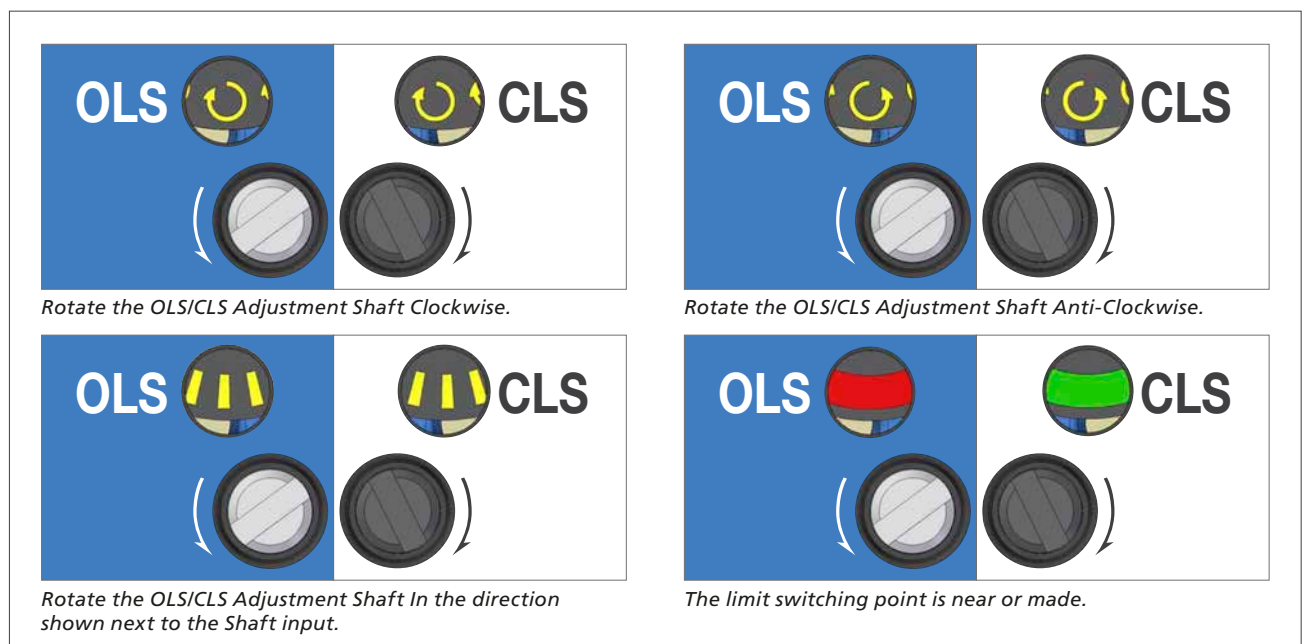

Figure 1.
- 3) The CLS Adjustment Screw must now be rotated to make the closed limit switch inside the switch mechanism. The CLS Indicator Window will show one of four possible symbols. Please refer to Figure 1 on page 7 for direction input.
- 10) The OLS Adjustment Screw must now be rotated to make the open limit switch inside the switch mechanism. The OLS Indicator Window will show one of four possible symbols. Please refer to Figure 1 below for direction input.